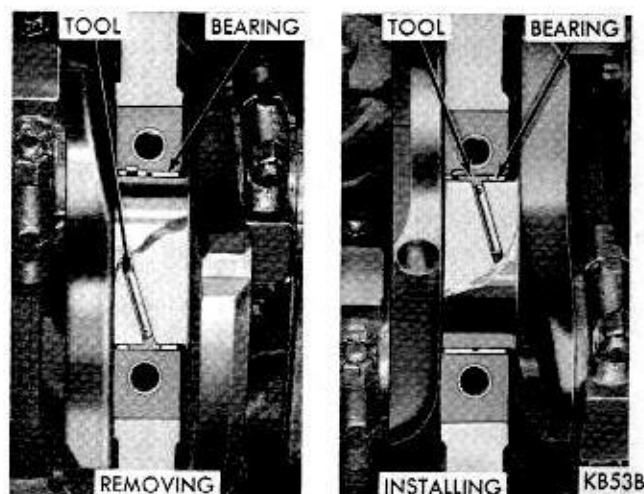

Fig. 47—Removing or Installing Upper Main Bearing
(1) Remove oil pan and identify bearing caps before removal.
(2) Remove bearing caps one at a time. Remove upper half of bearing by inserting Tool C-3059 (Fig. 47) into oil hole of crankshaft.
(3) Slowly rotate crankshaft clockwise, forcing out upper half of bearing.
(1) Start bearing in place, and insert Tool C-3059 into oil hole of crankshaft (Fig. 47).
(2) Slowly rotate crankshaft counter-clockwise sliding the bearing into position. Remove Tool C-3059.